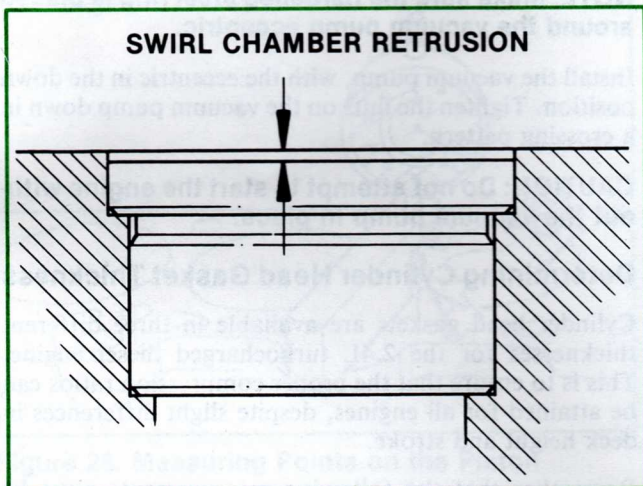

Figure 22. Swirl Chamber Retraction
8. Check the retraction distance (Fig. 22) of the swirl chamber. This measurement can be done in the same manner as that used to determine piston protrusion. Retraction distance can range from 0.0008 to 0.003 in (0.02 to 0.07 mm). The swirl chambers are made of high temperature steel and are mounted into the aluminum cylinder head using a shrink fit. Because of the shrink fit method of mounting the swirl chambers into the head, there is no recommended service procedure for servicing the swirl chambers individually. If one of them should become loose or damaged, the entire cylinder head must be replaced.